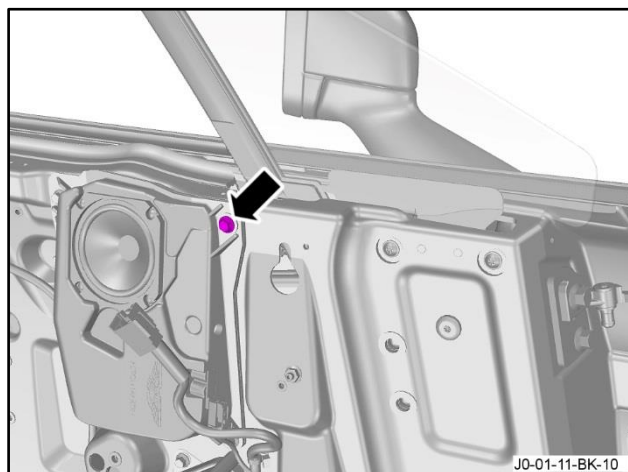

Figure 27
12. Install but do not torque the bolt that attaches the division bar and quarter glass assembly to the door (refer to Figure 27).